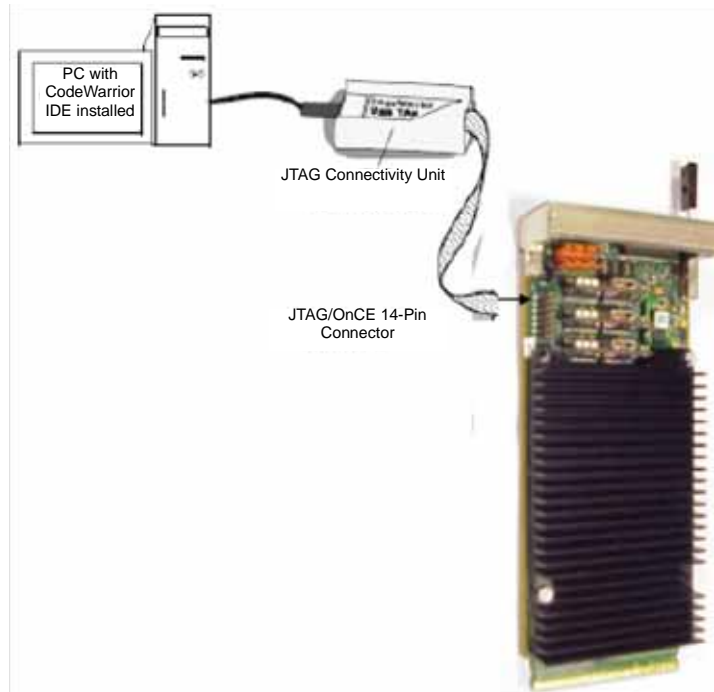

Figure 5. USB TAP Connection
1. Connect the JTAG connectivity unit to the JTAG/OCE 14-pin connector (HD2) (see Figure 5).